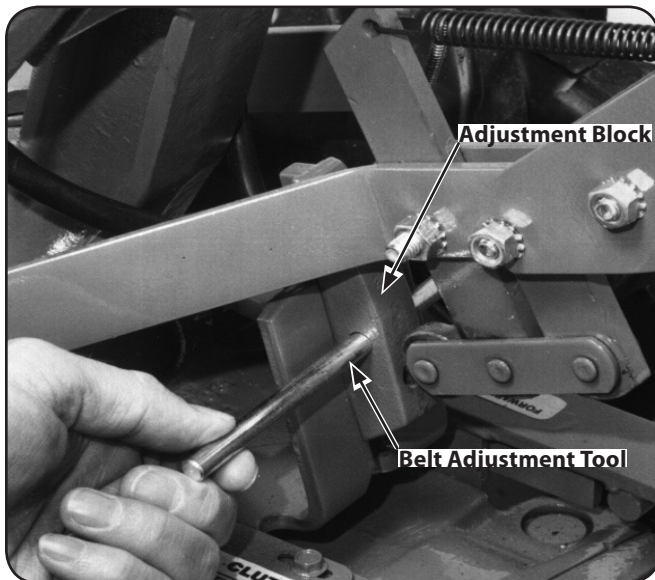

Figure 6-15
3. Insert the belt adjustment tool through the hole in the side of the adjustment block, spacing the ends of the tool equally on both sides. See Figure 6-15. Rotate the tool so the slotted end faces down.